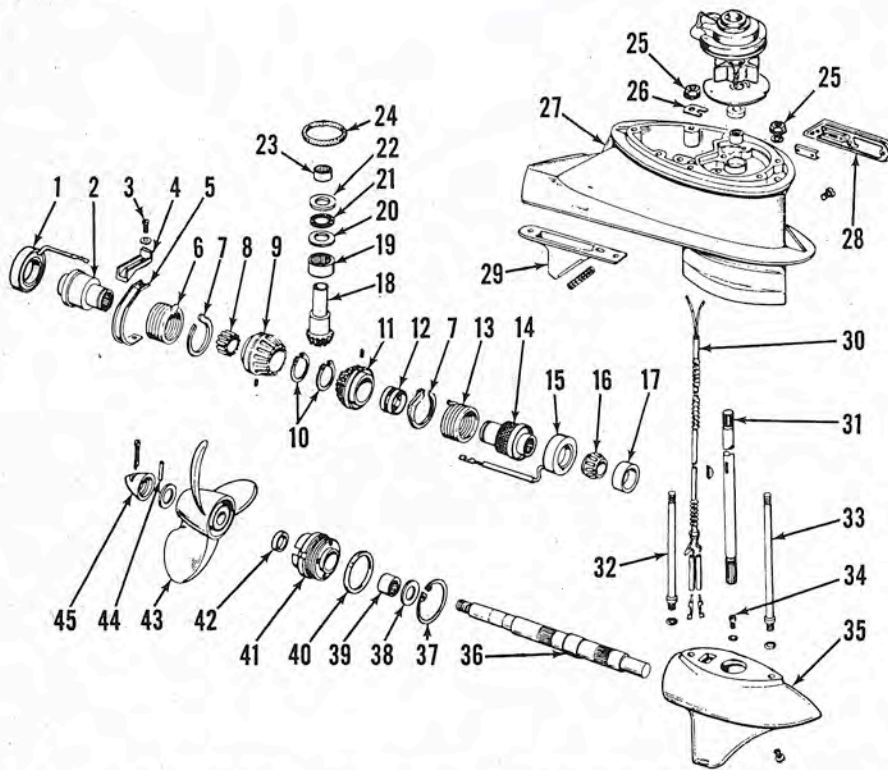

Fig. J72 — Exploded view of gearcase and associated parts used on ELECTRAMATIC models.
To disassemble the gearcase, unbolt and remove the water pump and drive shaft, then remove and discard the two stud nuts (25—Fig. J72), retaining lower gearcase to upper housing. New self-locking nuts should be used when reassembling.
ing cone (16—Fig. J72), and pull the bearing cone and forward electromagnet (15). Bearing cup (17) can be removed with an internal expanding puller and slide hammer, or by heating the gearcase (35) to approximately 200° F. and jarring cup from housing.